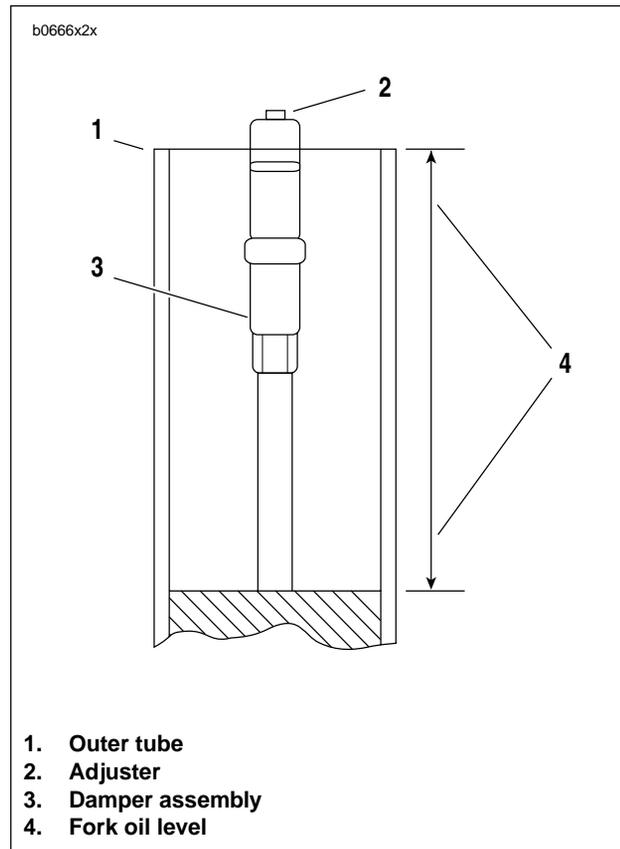

Figure 2-73. Measuring Fork Oil Level
17. See Figure 2-73. Adjust fork oil level with FRONT FORK OIL LEVEL GAUGE (Part No. B-59000A) so that it is 4.6 in. (118 mm) from the top of the fork tube.